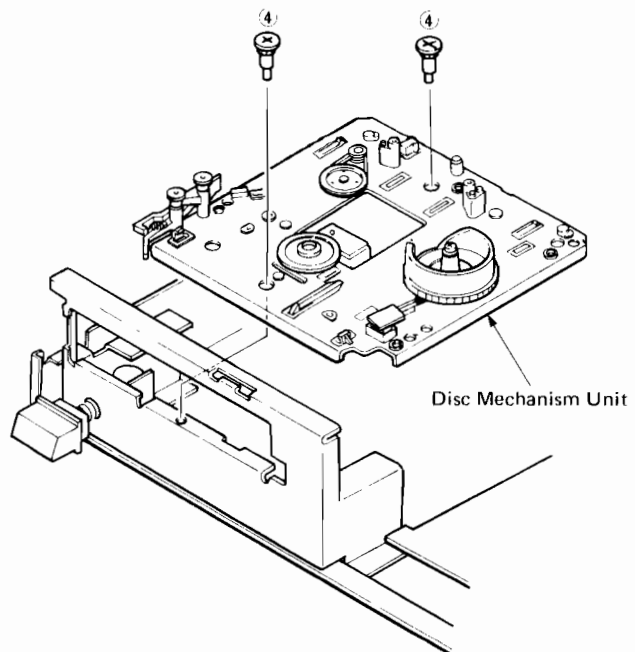

Fig. 3
- a. Remove 2 screws ( ④ ) in Fig. 3.